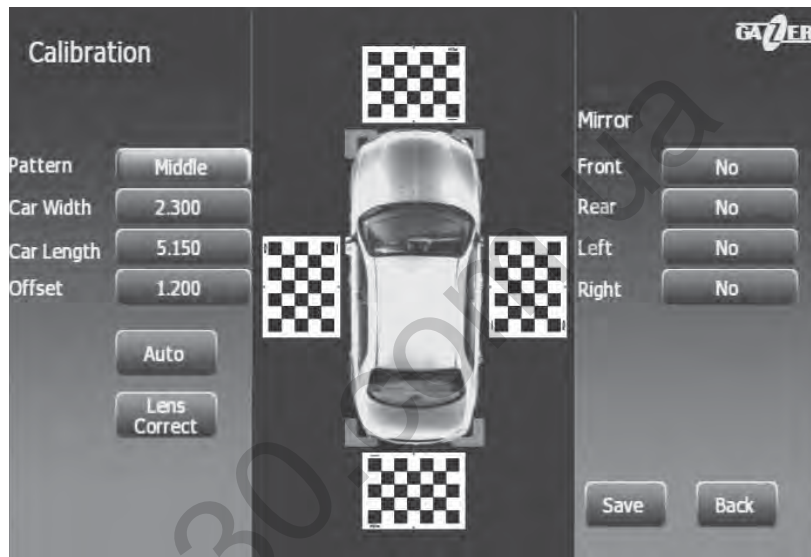

Fig. 9
5. After adjusting the camera view, go back to the previous menu using the "Back" button on the remote control. Enter L (Length), W (Width), P (Pan) values in the corresponding fields in accordance with your data and then select "Auto" (Fig. 9) in the menu. In case calibration was successful, you will see a panoramic "plan" view of your car without any blind spots (Fig. 9).